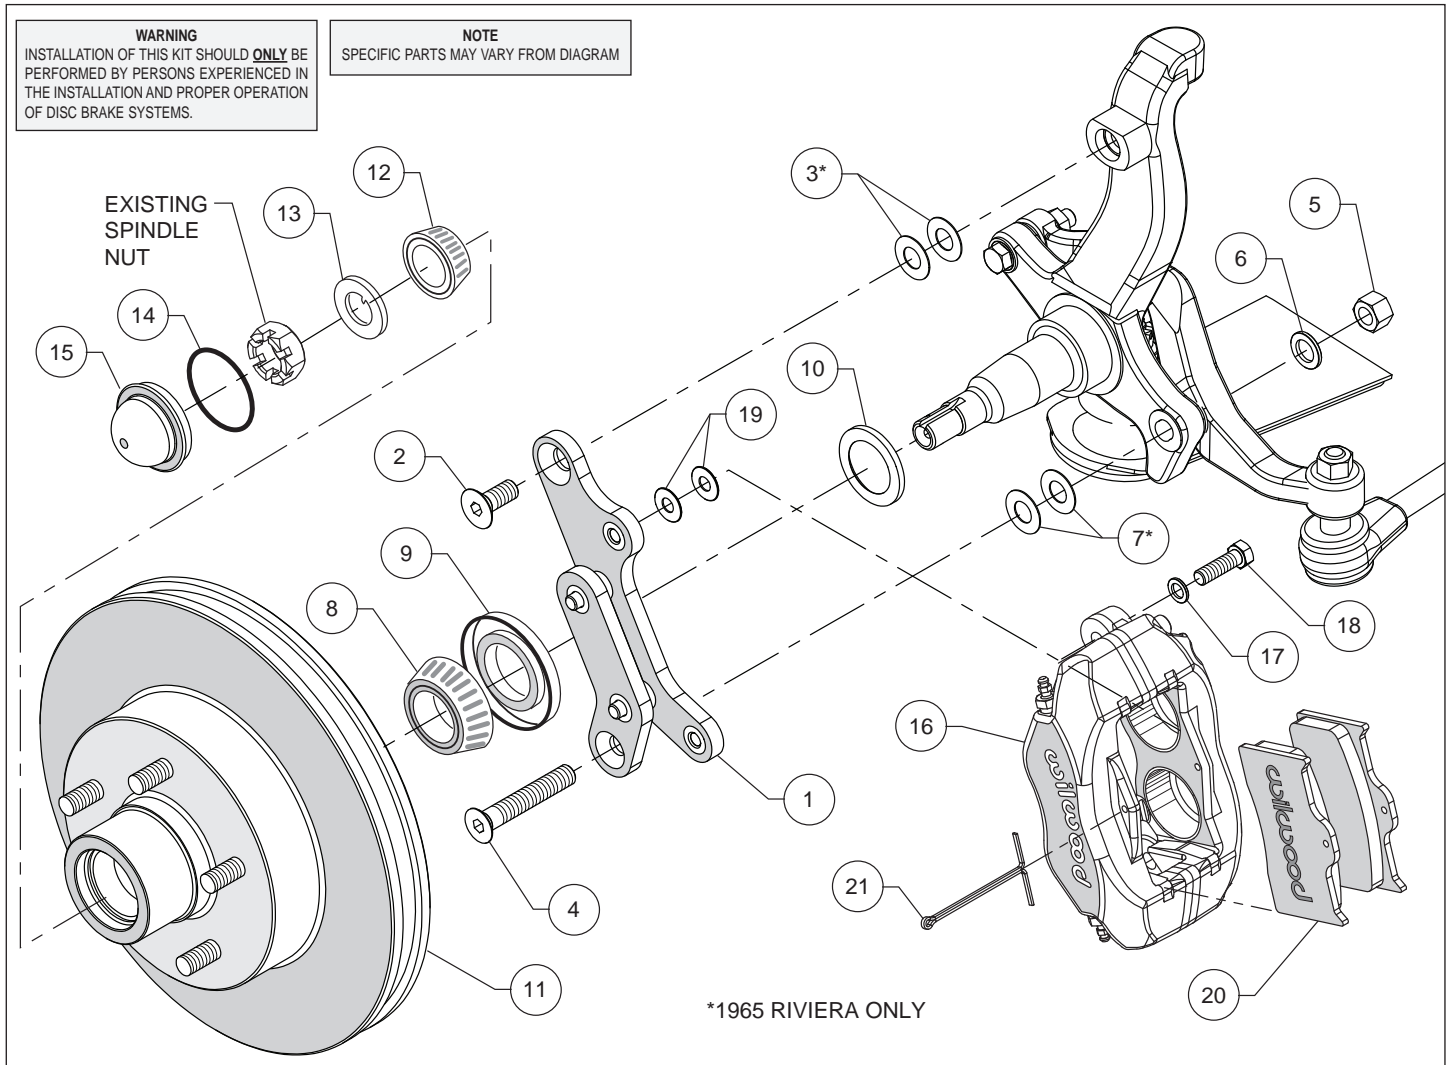
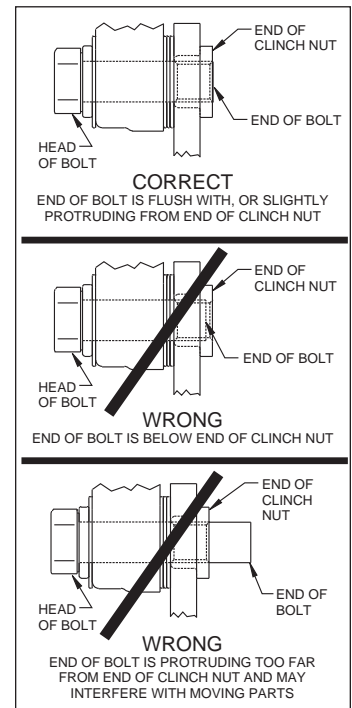

Figure 1. Typical Installation Configuration
Figure 3. Clinch Nut Engagement Diagram
**Assembly Instructions** (numbers in parenthesis refer to the parts list, on the preceding page and Figure 1): **CAUTION:** All mounting bolts must fully engage clinch nuts. Be sure to check that all bolts are either flush or protruding through flanged side of clinch nut after shimming, Figure 3.
- The caliper mounting bracket (1) has been assembled at the factory for alignment purposes. Loosen the two bolts that secure the brackets together so that the bolts are hand tight only, this will enable the bracket assembly to be adjusted to accommodate various spindle tolerances during assembly. Orient the caliper mount bracket as shown in Figure 1, and install using bolts (2 and 4), nuts (5), and washers (6), Figure 1. **NOTE: Shims (3 and 7) are to be used only on 1965 Riviera applications, Photo 1.** Ensure that the flanged heads of the clinch nuts in the bracket are facing outboard. Temporarily tighten the mounting bolts. **NOTE: The bracket must fit squarely against the mount bosses on the upright.** Inspect for interference from casting irregularities, machining ridges, burrs, etc.
- Pack the small outer bearing cone (12) with high temperature disc brake bearing grease and install into hub (11). Slide the hub/rotor onto the spindle. Secure using spindle washer (13) and OEM spindle nut. Adjust bearings by tightening the wheel bearing nut to 60 **in-lbs.** while turning the hub/rotor assembly. Back off the adjusting nut one slot and install a new cotter pin (not supplied). **The resulting adjustment should be zero (no pre-load to 0.003 inch end play).**
- Install the o-ring (14) onto the dust cap (15). Press the dust cap into the hub (11).
- NOTE: Please reference the caution statement at the beginning of the assembly instructions.** Mount the caliper (16) onto the caliper mounting bracket (1) using bolts (18) and washers (17), as shown in Figure 1. Initially place two .035" thick shims (19) on each bolt between the caliper and the bracket, Photo 4. Temporarily tighten the mounting bolts and view the rotor (11) through the top opening of the caliper. The rotor should be centered in the caliper, Photo 5. If not, adjust by adding or subtracting shims between the bracket and the caliper. Always use the same amount of shims on each of the two mounting bolts. **NOTE: The end of each bolt must be flush with or slightly protruding from the head of the clinch nut, as shown in Figure 3.** If necessary place spare shims between washer (17) and caliper mounting ear to achieve the proper clinch nut engagement. Once the caliper alignment and clinch nut engagement are correct, remove the bolts one at a time, apply red *Loctite*® 271 to bolt threads, and torque to 40 ft-lb.